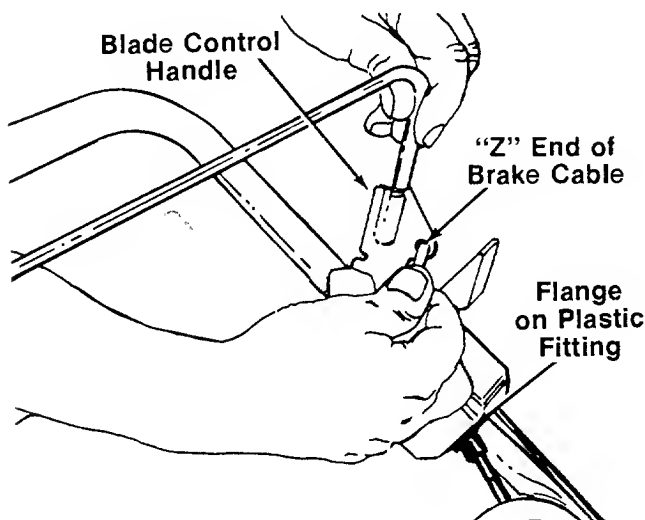

FIGURE 6.
7. Snap the plastic fitting on the end of the cable into the control housing. Hook the "Z" end of the brake cable into the hole in the blade control handle. See figure 6.